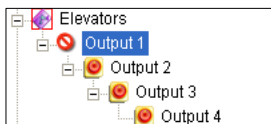
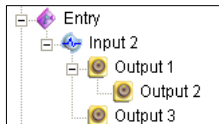
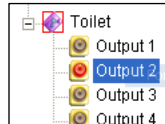

Figure 4-40
Figure 4-41
Figure 4-42
- In the Advanced I/O List, considering cascade triggers, you can only manually force the output at the top level, e.g. Figure 4-40. Other outputs at sub levels cannot be forced manually, e.g. Figure 4-41. However, if the output is not in a cascading hierarchy, you can definitely force it manually, e.g. Figure 4-42.